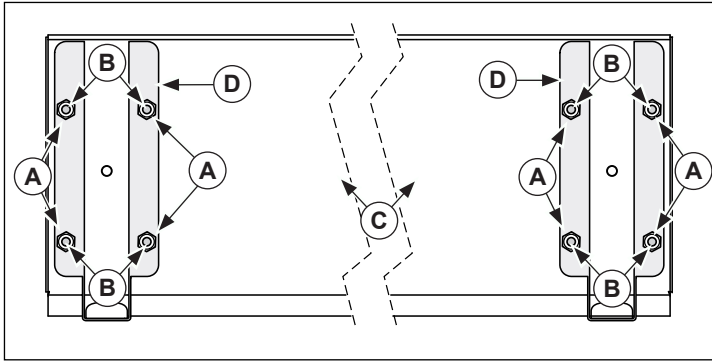

Figure 5. Cutting Board and Bracket Installation
1. Turn the cutting board top (C) so the weld nuts (B) are exposed. See Figure 5.